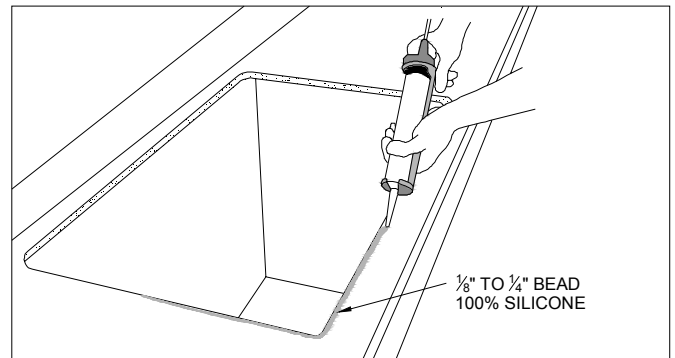

Figure 31A
- Apply an  $\frac{1}{8}$ " to  $\frac{1}{4}$ " bead of 100% silicone around the entire cutout approximately  $\frac{1}{4}$ " from the edge of the cutout. (FIG. 31A)